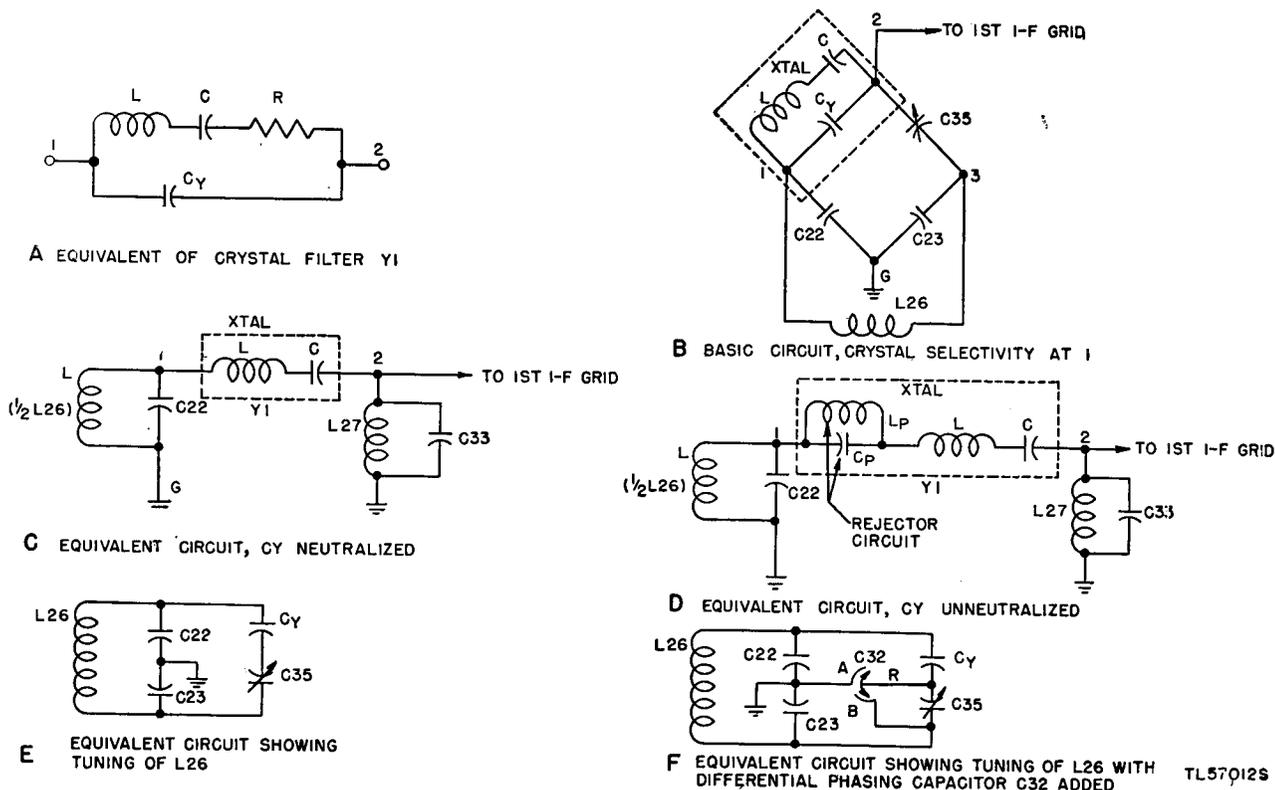

Figure 28. Radio Receiver BC-779-B, functional and equivalent diagrams of crystal filter circuit.
## 61. Crystal Filter (fig. 28)
a. EQUIVALENT CRYSTAL CIRCUIT. The equivalent electrical circuit of a crystal is shown in "A," figure 28. The circuit, and hence the crystal, are resonant at two frequencies: The frequency at which the reactance of L is equal to the reactance of C (series resonance), and the frequency at which the effective reactance of L-C (in series) is *inductive* and *equal* to the capacitive reactance of  $C_Y$  (parallel resonance). At the series-resonant frequency the crystal acts as a low-impedance connection between 1 and 2. At the parallel-resonant frequency the crystal acts as a high impedance between 1 and 2.
b. BASIC FILTER CIRCUIT ("B," fig. 28). Capacitors C22 and C23 (100 mmf each) are connected in series across the secondary of i-f input transformer L26, and their junction is grounded to provide a midpoint connection in the resonant circuit L26-C22-C23. Consequently, the capacitor voltages are always of equal amplitude but 180° out of phase. Phasing capacitor C35 (1.5 to 5 mmf) is connected between 3 and 2, and the crystal is connected between 1 and 2.
c. NEUTRALIZATION OF  $C_Y$ . Capacitors C22, C23, C35, and  $C_Y$  (the capacity between the crystal holder plates) form a capacity bridge; the input is applied to 1 and 3, the output is taken from 2 and G. When capacitor C35 is adjusted so that its capacitance is equal to that of  $C_Y$ , the voltage coupled from 3 through C35 to 2 is equal and opposite to the voltage coupled from 1 through  $C_Y$  to 2. Under this condition  $C_Y$  is neutralized and the crystal acts as a series-resonant circuit only ("C," fig. 28). Since the crystal is resonant at the intermediate frequency, there is (in effect) a direct connection between 1 and 2. As indicated in "C," figure 28, only the voltage across C22 (one-half the secondary voltage) is applied through the crystal to the grid circuit of the first i-f stage.
tance of  $L-C$  and the capacitive reactance of  $C_Y$ . For simplicity the parallel-resonant circuit is denoted as rejector circuit  $L_P C_P$  in "D," figure 28.  $L_P$  and  $C_P$  denote the effective inductance and capacitance at the parallel-resonant frequency.  $L$  and  $C$  indicate the effective inductance and capacitance of the crystal at the series-resonant frequency, in this case the 465-kc i.f. In other words, unless  $C_Y$  is neutralized, the crystal acts simultaneously as a parallel- and series-resonant circuit. The parallel-resonant circuit  $L_P C_P$  has no effect on the 465-kc i.f. but presents a high impedance to, and therefore rejects, the frequency to which  $L_P C_P$  is resonant.  $L$  and  $C$  present extremely low impedance to the 465-kc i-f signal voltage and high impedance to voltages at different frequencies. *With underneutralization the resonant frequency of  $L_P C_P$  is higher than 465 kc.*
*f. CAPACITOR C32.* Capacitor  $C_{35}$ , in series with capacitance  $C_Y$ , is across  $L_{26}$  and affects its tuning ("E," fig. 28). To avoid the detuning effect and to enable shifting the rejection frequency to either side of the i.f., differential PHASING capacitor  $C_{32}$  ("F," fig. 28) is used in the radio receiver. Stator sections A and B are so arranged that, as rotor R is turned out of one stator into the other, the capacitance of the first *decreases* by the same amount that the capacitance of the second *increases*. Thus, whether the rotor is entirely engaged in stator A, is at a midpoint, or is entirely in stator B, the effective capacitance across A-B, and therefore across  $L_{26}$ , remains constant. Assume that  $C_{32}$ , the PHASING capacitor, is set at the arrow position of the PHASING control on the front panel and
(2) *CRYSTAL SELECTIVITY switch at 1.* When *CRYSTAL SELECTIVITY* switch SW7 is placed at 1, the short is removed from the crystal. If the secondary of L26 and the parallel-resonant grid circuit, L27-C33, are tuned to 465 kc, each is the equivalent of a high resistance in series with the equivalent series-resonant circuit of the crystal ("C," fig. 28). Consequently, the Q and therefore the selectivity of the series-resonant (crystal) filter circuit is reduced, and the bandwidth is several kilocycles wider than that of the crystal alone.